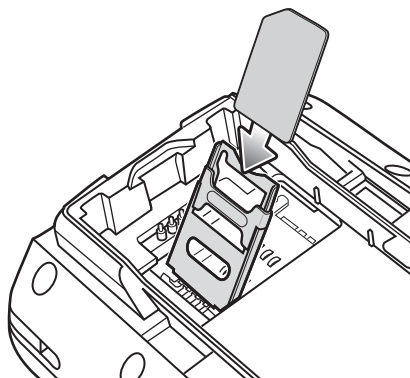

Figure 1-2 Inserting the SIM Card
4. Insert the SIM card, as shown in Figure 1-2, with the cut edge of the card facing out and the contacts facing down.